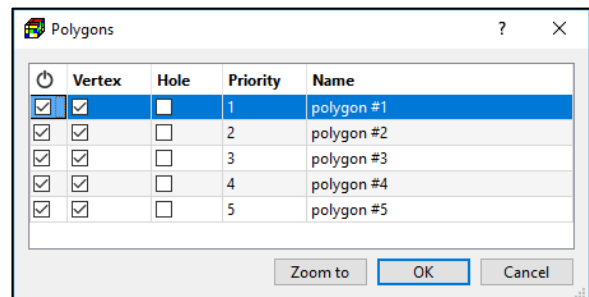

Figure 24. The Polygons dialog box
- **Manage Polygons:** Select this item to manage properties of existing polygons: You can use the Polygons dialog box (Figure 24) to manage the following polygon properties. To open this dialog box, right-click on one of the vertices, then select Manage Polygons from the popup menu.
²² The priority number or the hole settings (see Figure 24) of that polygon are ignored in this case.